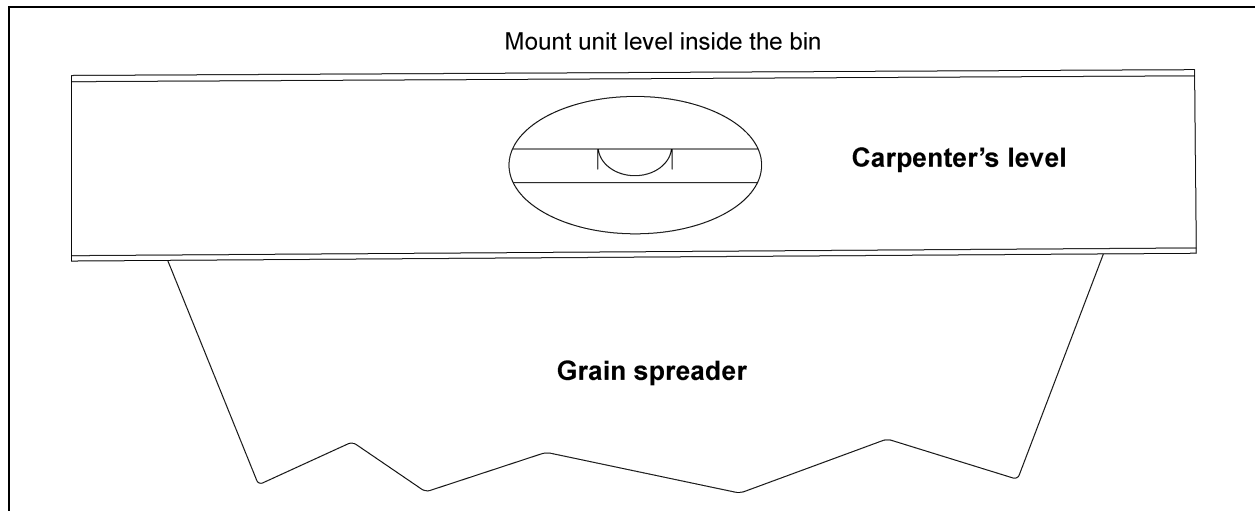

Figure 4A Mount Spreader and Check with Level
4. Once unit is installed, use a carpenter's level across the top of the spreader cone to confirm it is level in all directions. (See Figure 4A.)